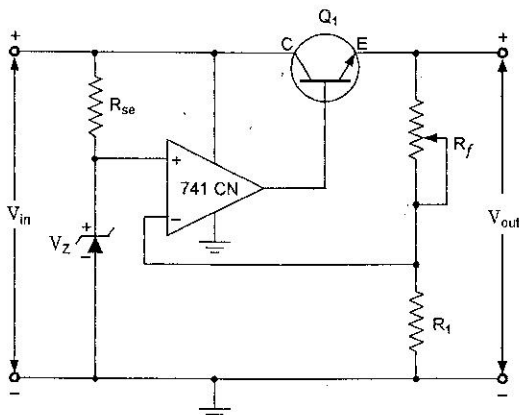

Fig. 32.14. Op-Amp Series Voltage Regulator Circuit
32.6.1. Op-Amp Series Voltage Regulator Circuit. Op-amp series voltage regulator circuit is shown in Fig. 32.14. The op-amp compares the zener diode reference voltage with the feedback voltage from sensing resistors R_f and R_1 . If the output voltage varies, the conduction of transistor Q_1 is controlled to maintain the output voltage constant. The op-amp places a negligible load on the zener diode, allowing it to operate at a *single fixed* point. This results in a very stable output from the zener diode. Also, the zener diode no longer must absorb large swings in the current. Hence it can be replaced by a low-power, highly precise reference diode.